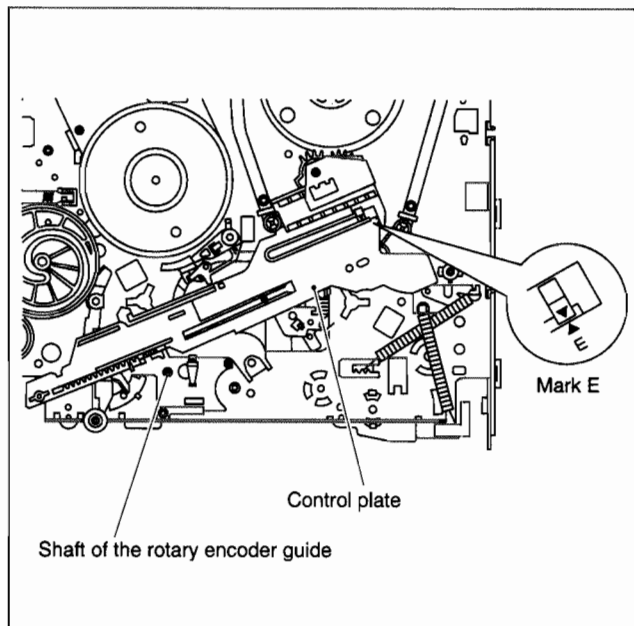

Fig. 2-2-26
- (1) Slide the control plate so that its mark E is aligned with the mark ▼ on the loading arm gear shaft. (See Fig.2-2-26.)